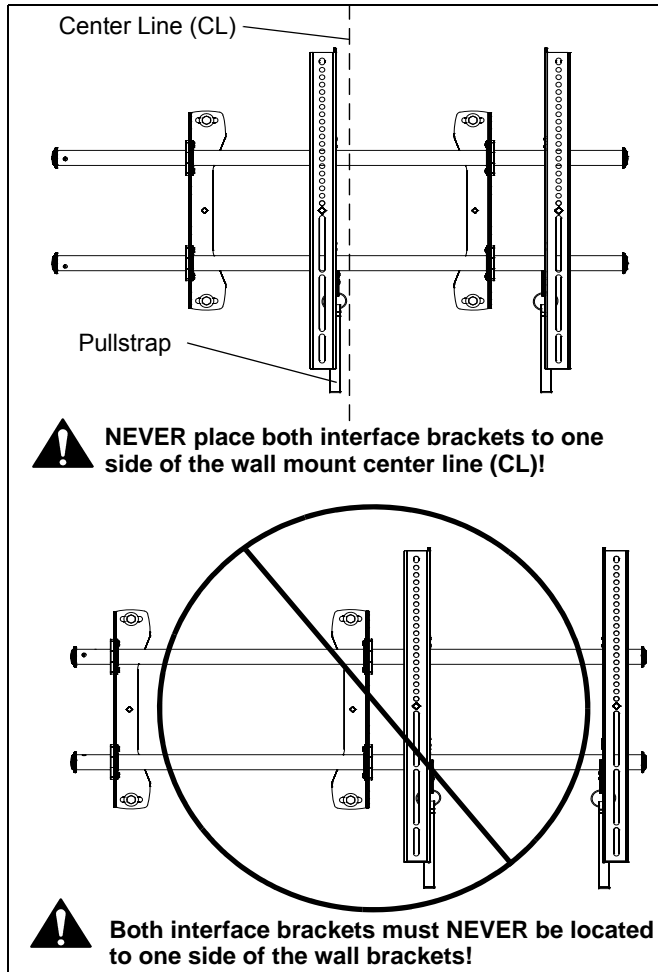

Figure 7
1. Adjust Velcro® pull strap (if necessary) so it does not extend beyond bottom of screen. (See Figure 7)
NOTE: Do NOT allow both interface brackets to be located on same side of wall bracket. (See Figure 7)
NOTE: NEVER place both interface brackets to one side of the wall mount center line! (See Figure 7)